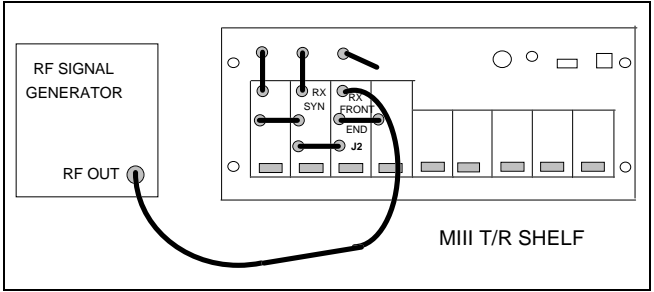

Figure 6 - Test Equipment Setup
- Connect test equipment as shown in Figure 6.